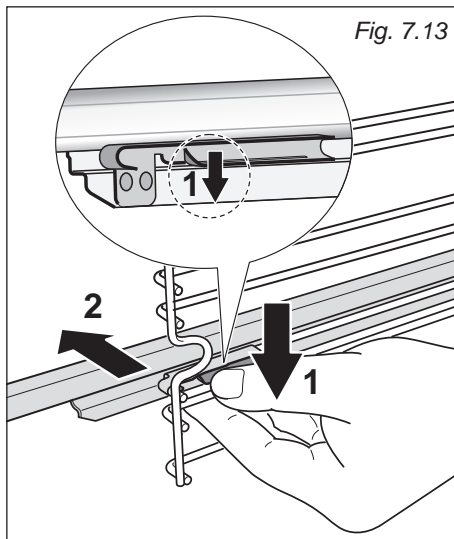

Fig. 7.13
- Find the safety locks. These are the tabs that clip over the wire of the side rack (arrow 1 in fig. 7.13).
- Pull the safety locks away from the wire to release the wire (arrow 2 in fig. 7.13).